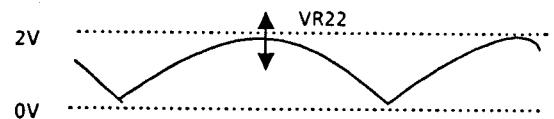

Fig. 4-27
- Adjust VR22 so that the peak level of parabola waveform becomes 2V p-p. (Fig. 4-27)